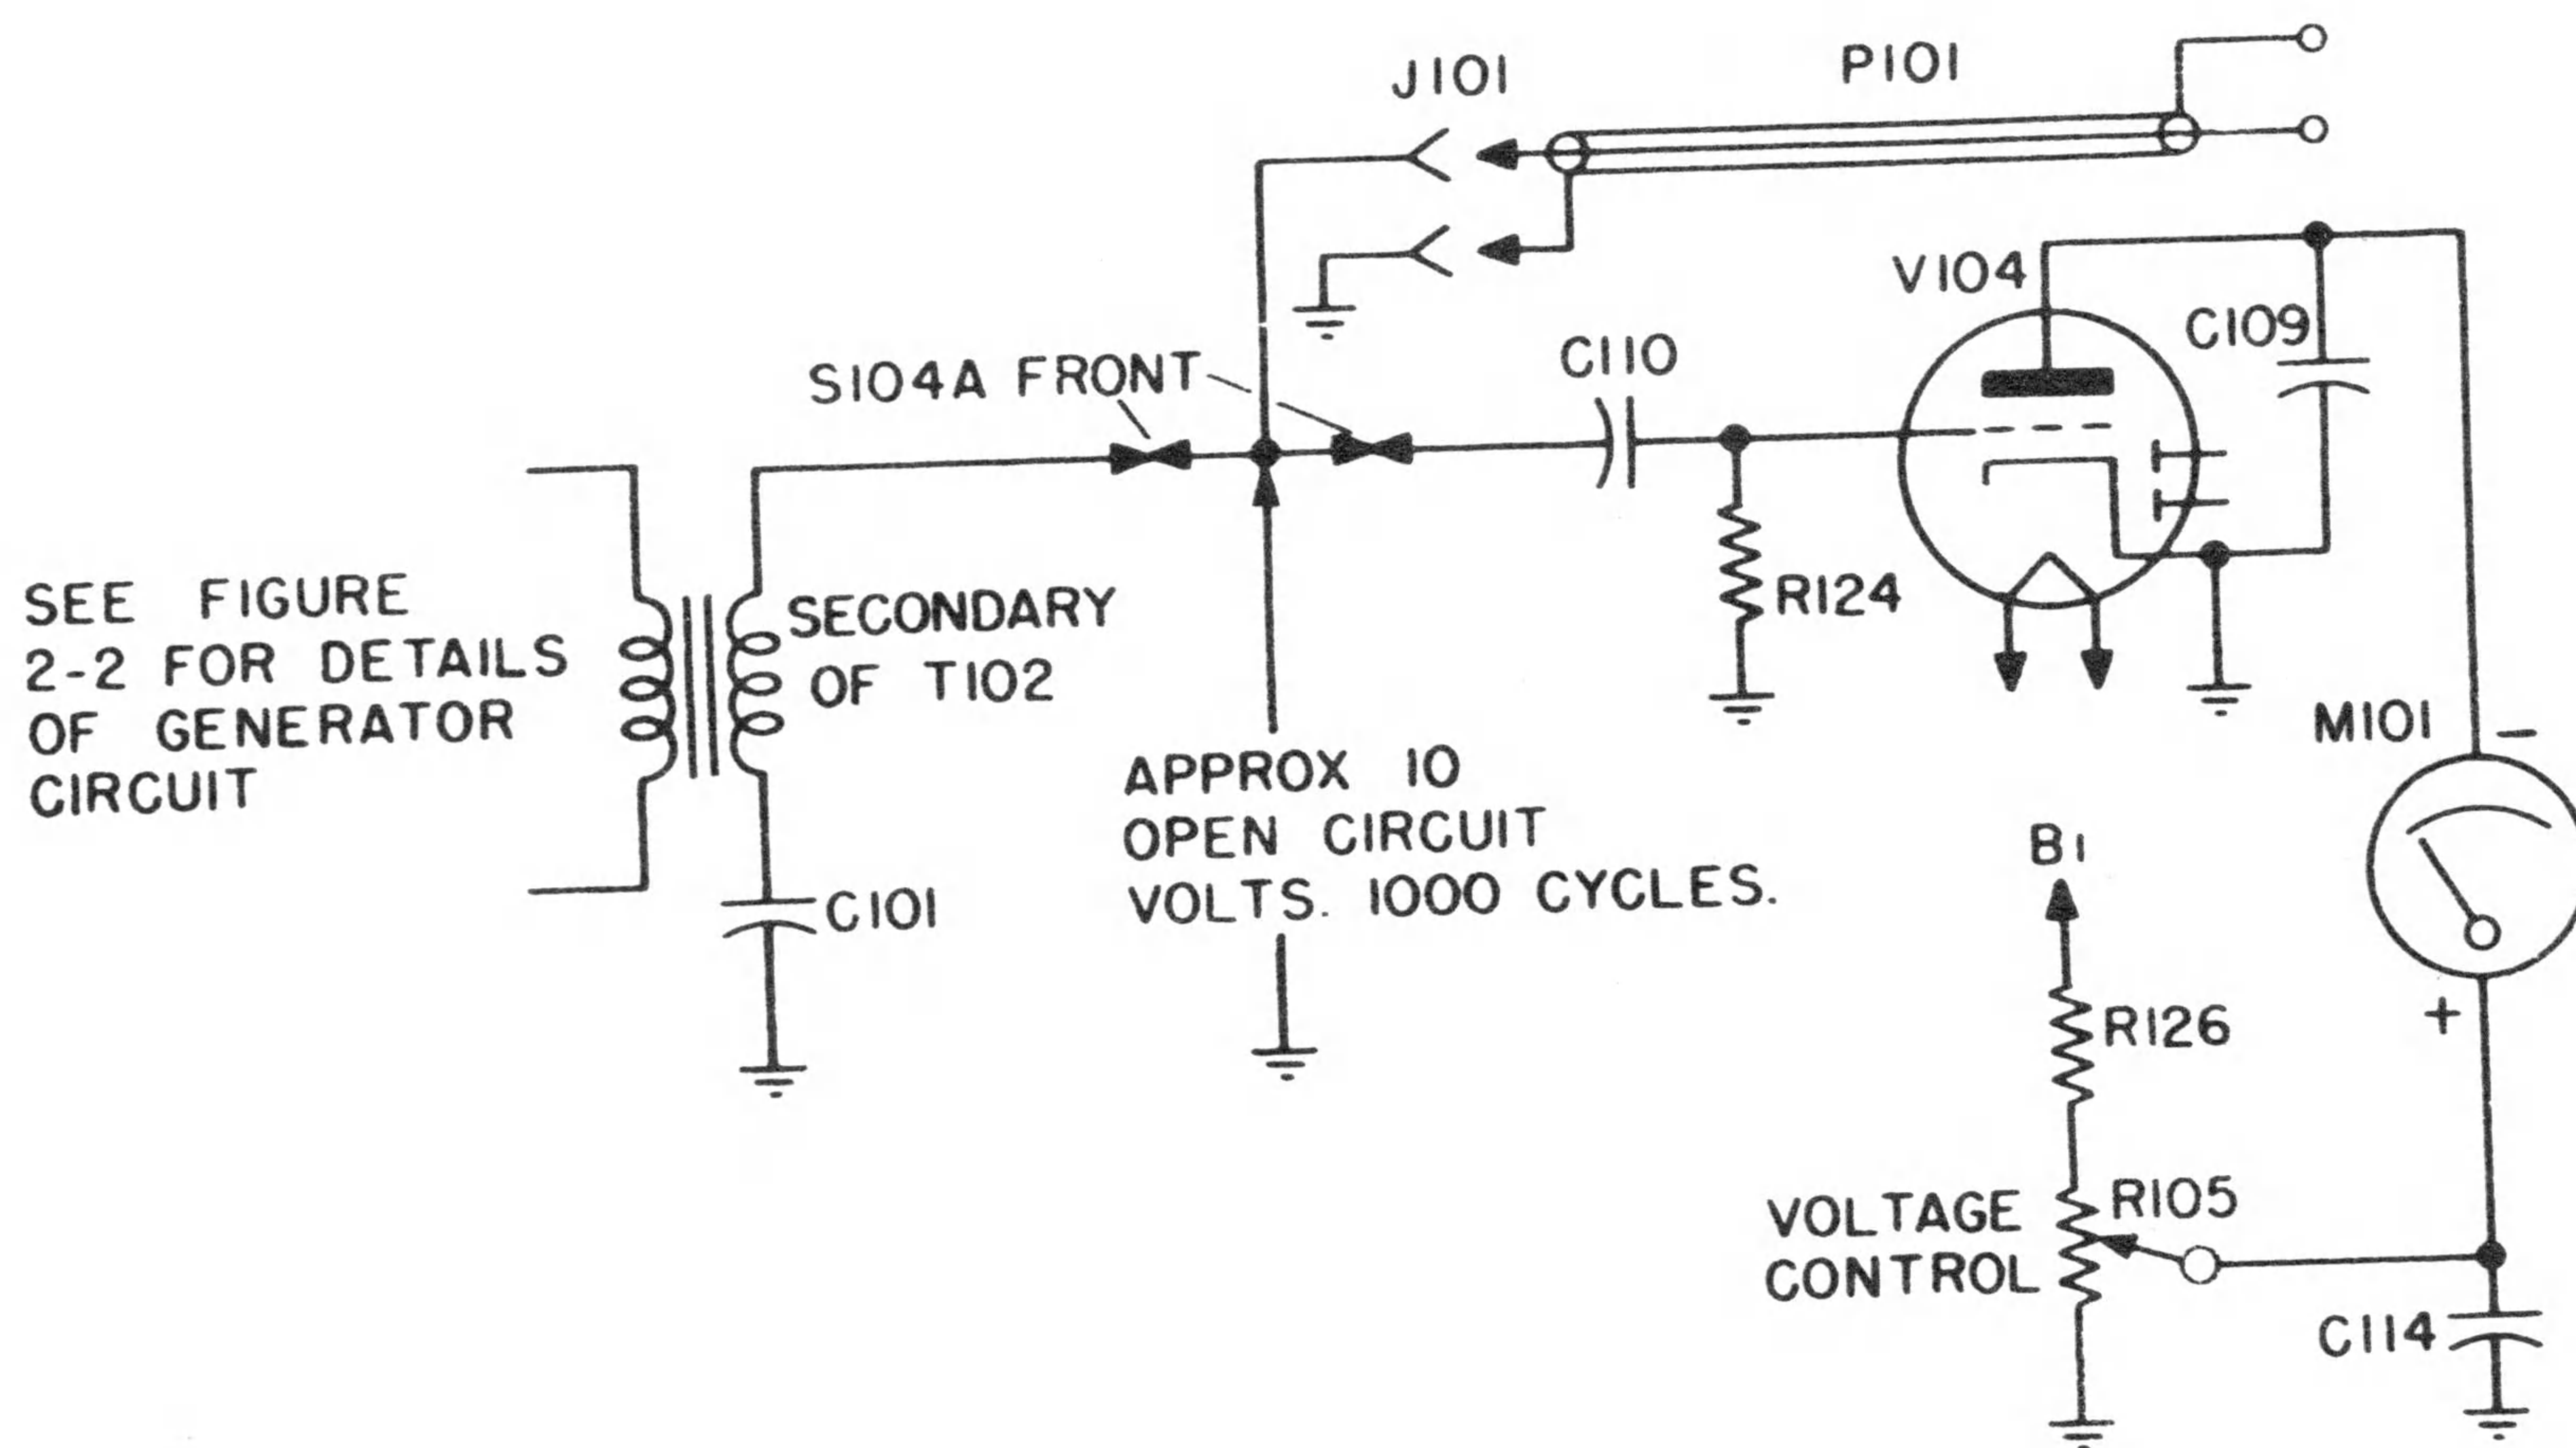

Figure 2-13. Capacitor Quality, Short Test Circuit.
e. The SHORT test, Figure 2-13, employs the same electron tube voltmeter and meter setting procedure as the other test, but is supplied from the 1000 cycle generator of the Model ZM-11/U. The cable has no special electrical properties at this frequency and serves simply as a connecting means to the doubtful capacitor. Obviously, if the capacitor is shorted, the electronic voltmeter will receive no input and will remain at full scale. If the capacitor is not shorted, the meter will drop.